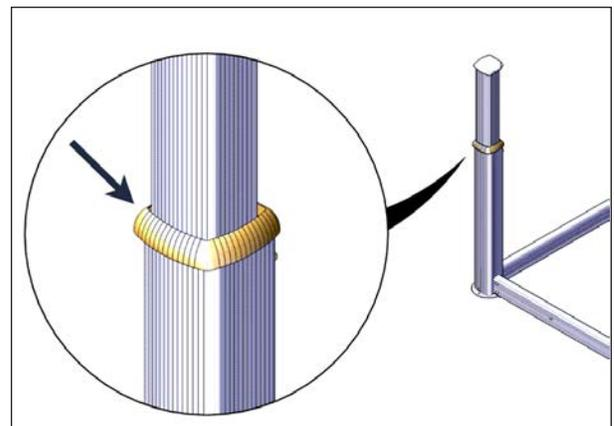

FIGURE 28: SLEEVE SEAL INSTALLATION
22. Make sure the sleeve seal on each post is slid all the way down against the top of the outer sleeve, see Figure 28.